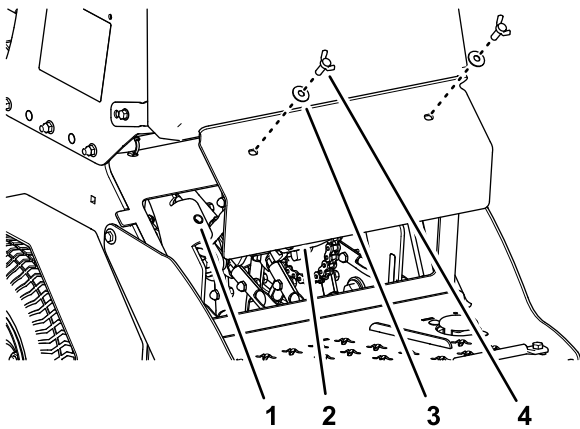

Figure 57
3. Remove the 2 thumbscrews (3/8 x 1 inch) and 2 washers (3/8 inch) that secure the rear-cover panel to the chassis, and remove the panel (Figure 57).
6. Align the holes in the rear-cover panel to the holes in the chassis (Figure 57).
7. Secure the cover panel to the chassis with the 2 thumbscrews and 2 washers (Figure 57) that you removed in step 3, and torque the bolts to 37 to 45 N·m (27 to 33 in-lb)